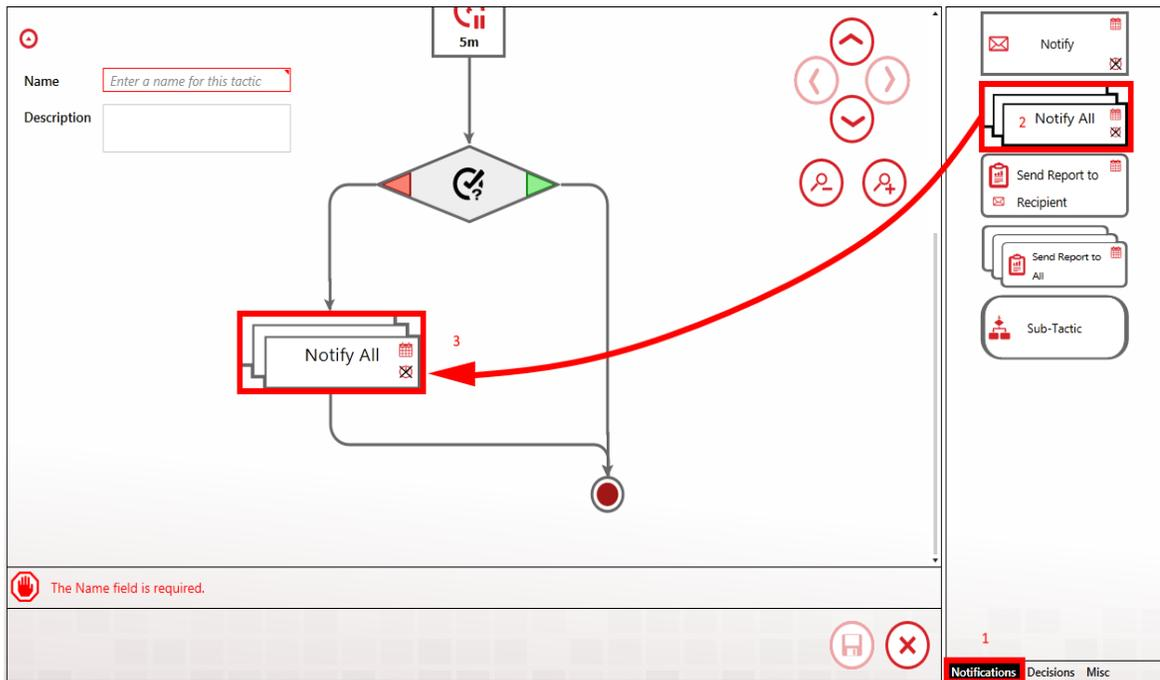

Figure 15: Adding Notify All to Decision Block
Lastly in this example, click the Notification tab (1) and the Notification panel reappears (Figure 15). Drag-and-drop the Notify All block (2) in the false path (3) of the Ack Decision block.